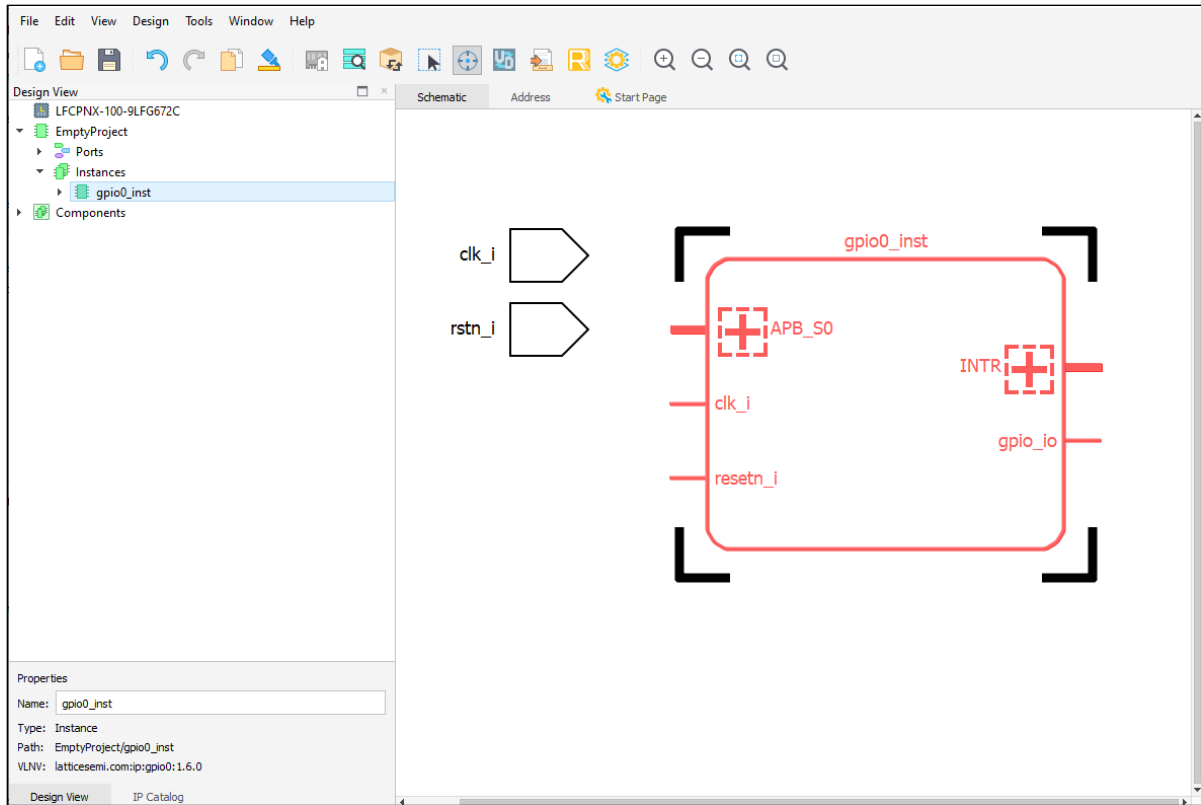

Figure 2.66. Locate Objects
2. Select the object in the List view of the Design View. The selected object is in the center of the Schematic View (Figure 2.66).